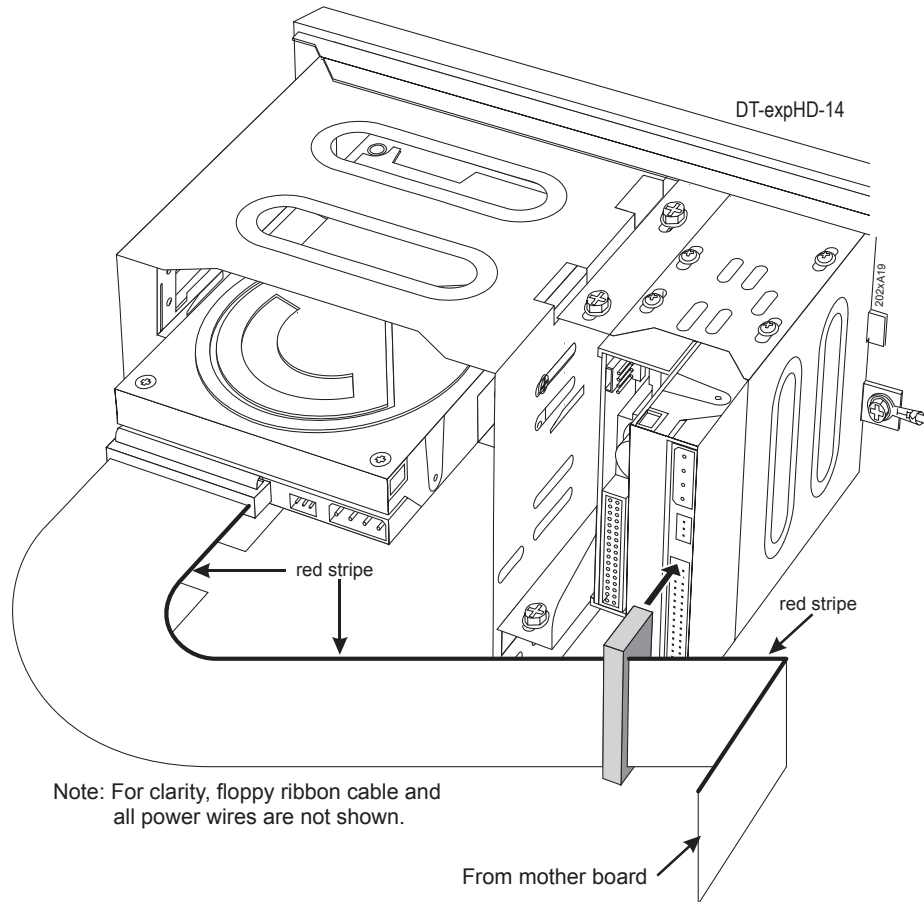

Figure 13
16. Plug the **middle connector** of the ribbon cable into the **master** hard drive. See Figure 13.